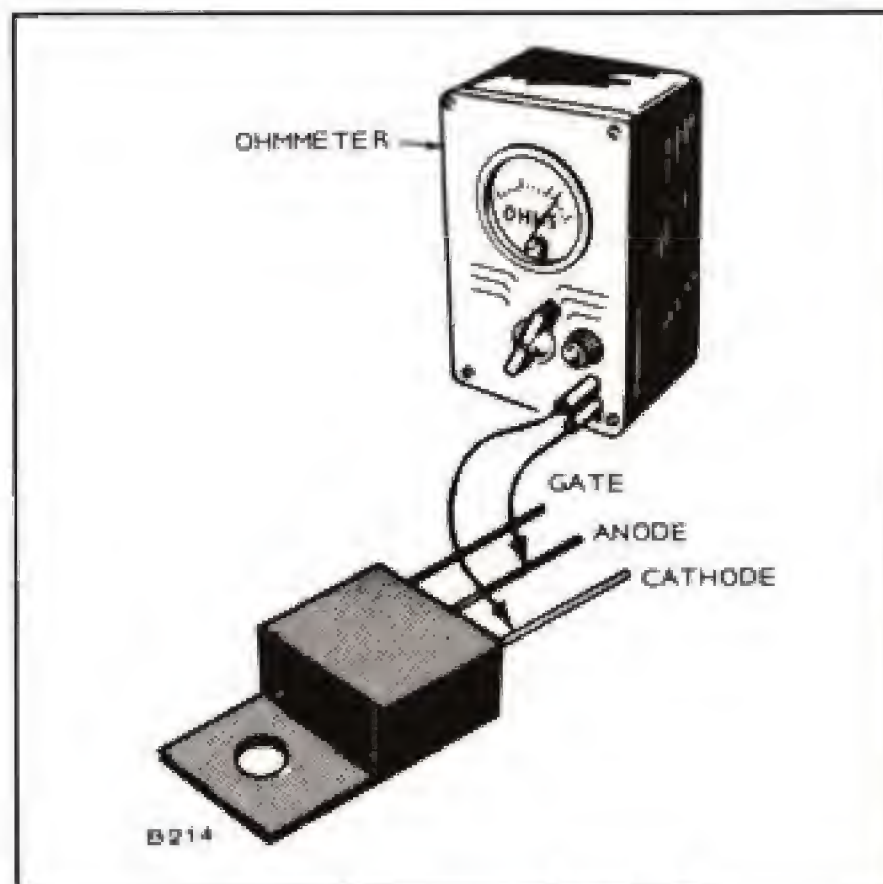

FIGURE 4-24. TESTING DIODES
2. Connect one lead to each end of diode and observe resistance reading, Figure 4-24.